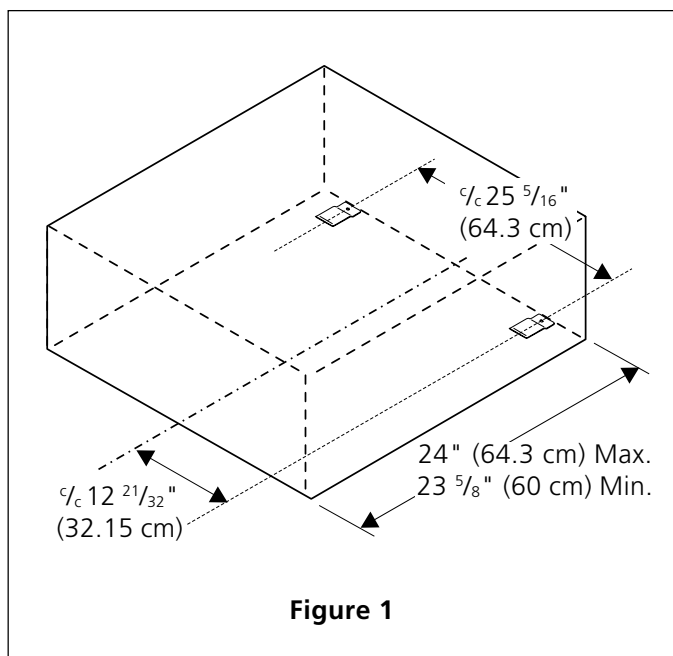

Figure 1
1. Locate the 2 anti-tip brackets supplied as shown on figure 1.